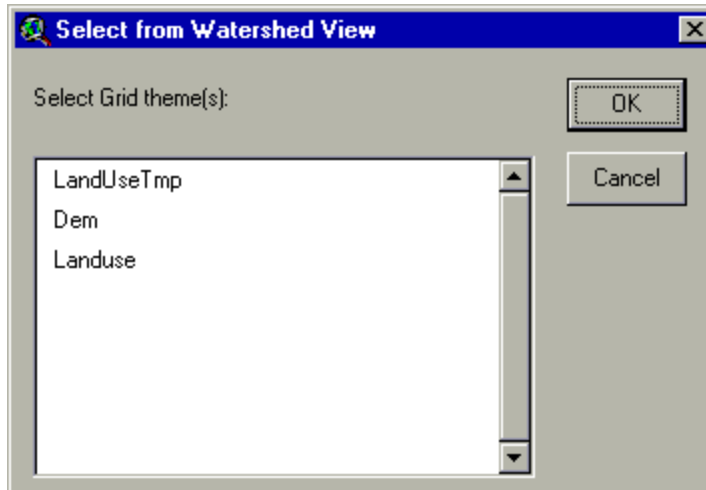

Figure 6.9
- i. If loading from the *Watershed View*, a dialog box is displayed (Figure 6.9) showing the list of grid themes.